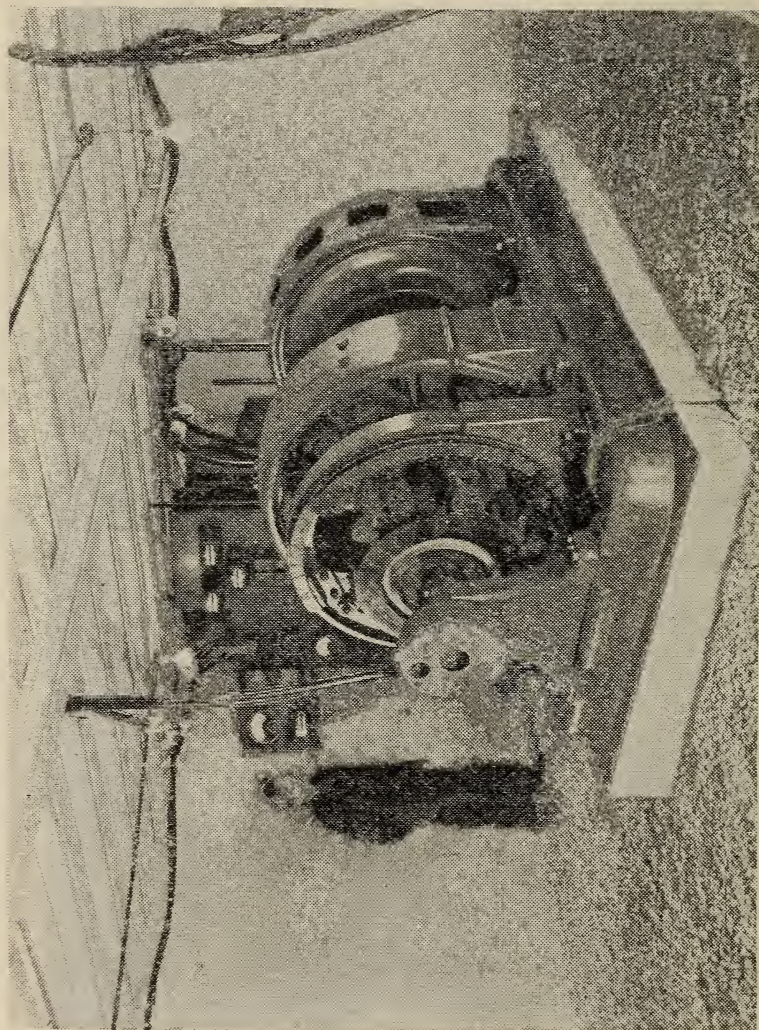

FIGURE 63.—Fire extinguishers and rock dust should be kept at every underground electric station.
A. Clean, dry, sand or rock dust or suitable-type fire extinguishers placed outside the station where they will be readily available. (See fig. 63.)